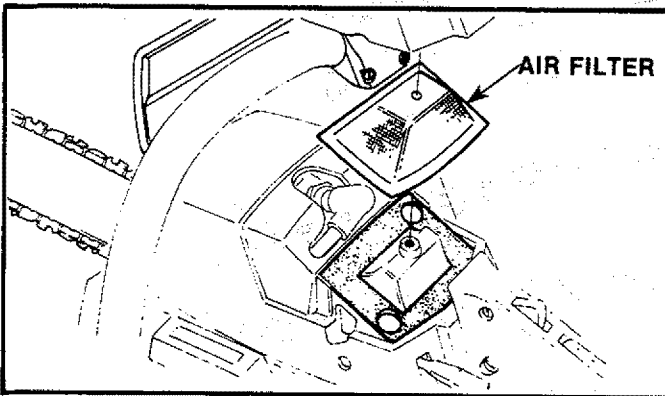

Figure 57
- Remove the carburetor cover. Figure 57.